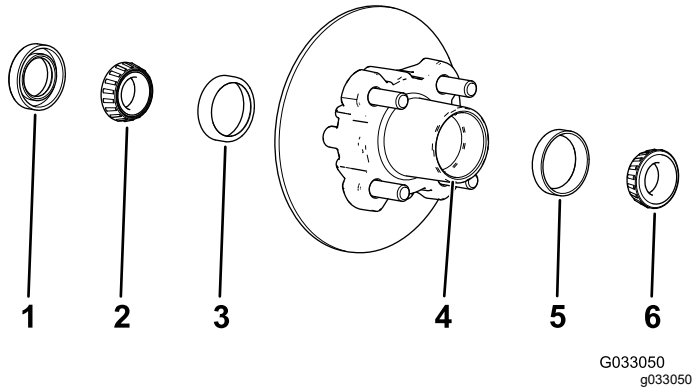

Figure 26
1. Remove the outboard bearing and bearing race from the hub (Figure 26).
2. Remove the seal, inboard bearing from the hub (Figure 26).
5. Clean the cavity of the hub of all grease, dirt, and debris (Figure 26).
7. Fill the cavity of hub 50 to 80% full of the specified grease (Figure 26).
8. Assemble the inboard bearing onto the race at the inboard side of the hub and install the seal (Figure 26).